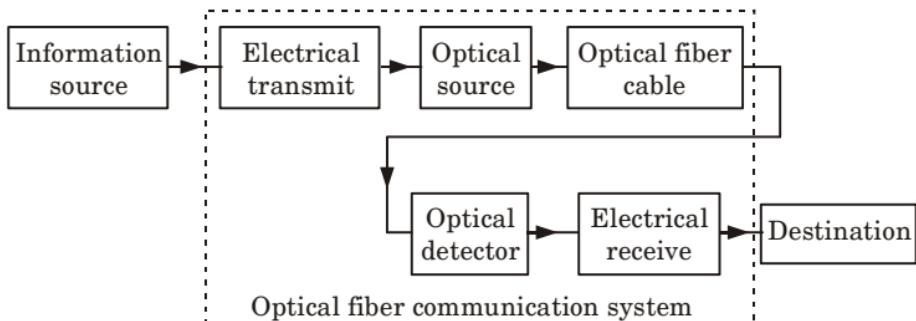

Fig. 1. The optical fiber communication system.
1. Fig.1 shows the block diagram of optical fiber communication.